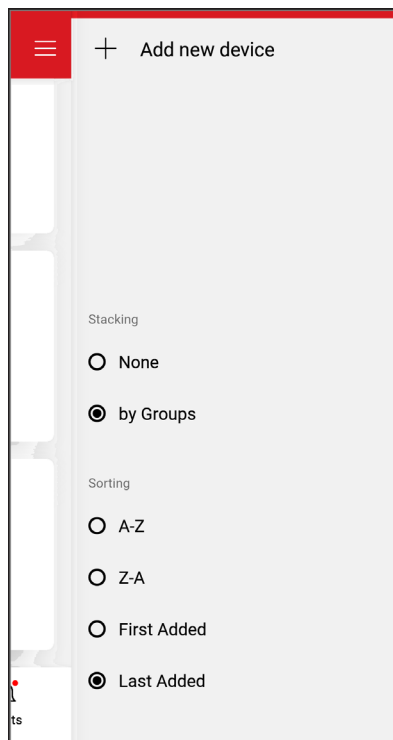

Figure 81. Add New Device
Once the user registration is complete, you can begin to add your AVIA heaters via the Raymote mobile app. See **Figure 81**.
- In the Raymote app, press the menu button  located at the top left corner of the screen, then press "+ Add new device". See **Figure 81**.